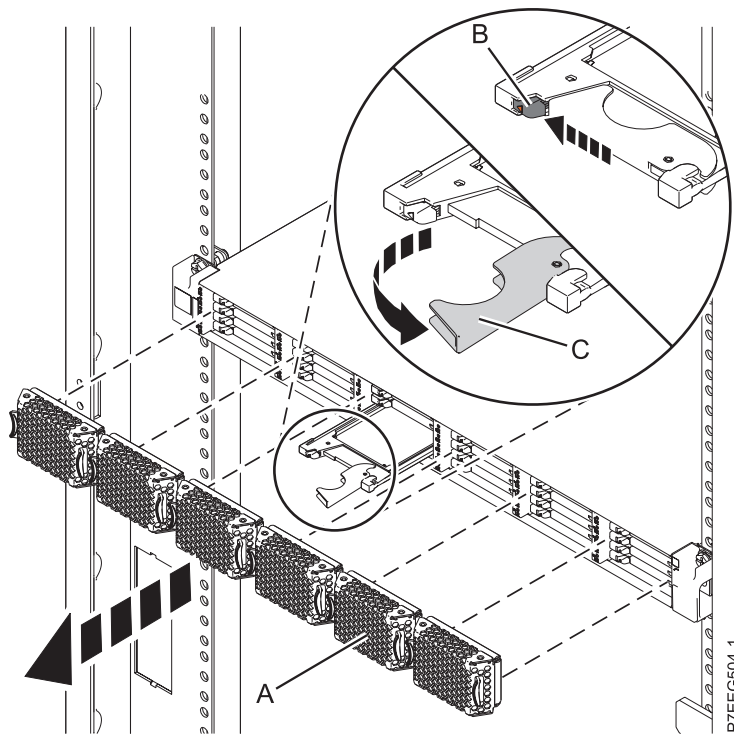

Figure 38. Removing the solid-state drive from the EDR1 PCIe storage enclosure
4. When the solid-state drive identify LED turns on solid, slide the release latch (B) over gently to unlock the drive handle. See Figure 38 on page 57.
5. Grasp the handle (C) and pull the drive partially out of the slot.